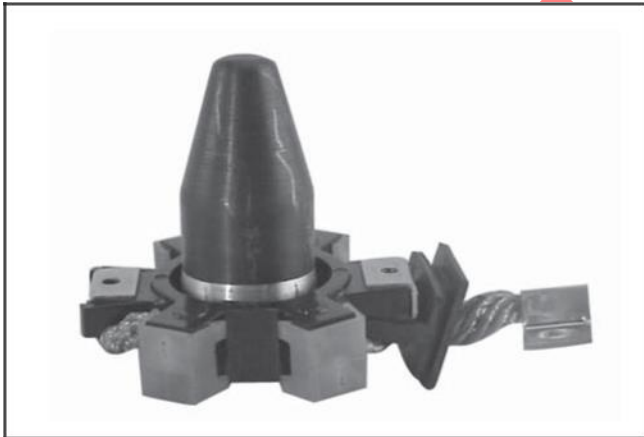

Figure 8-62. Brush Installation Tool with Extension.
- c. Install the brush springs and snap on the four retainer caps. See Figure 8-62.